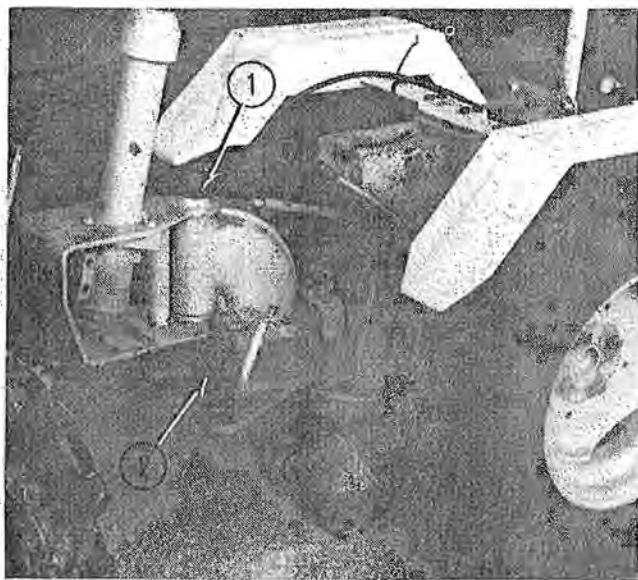

FIG. 1
- (1) The articulating hinge "king pin," (1, Fig. 1)
- (2) The barrel casting upon which the front half of the tractor oscillates, (2, Fig. 1)
- (3) The aft gear case through the front cover,